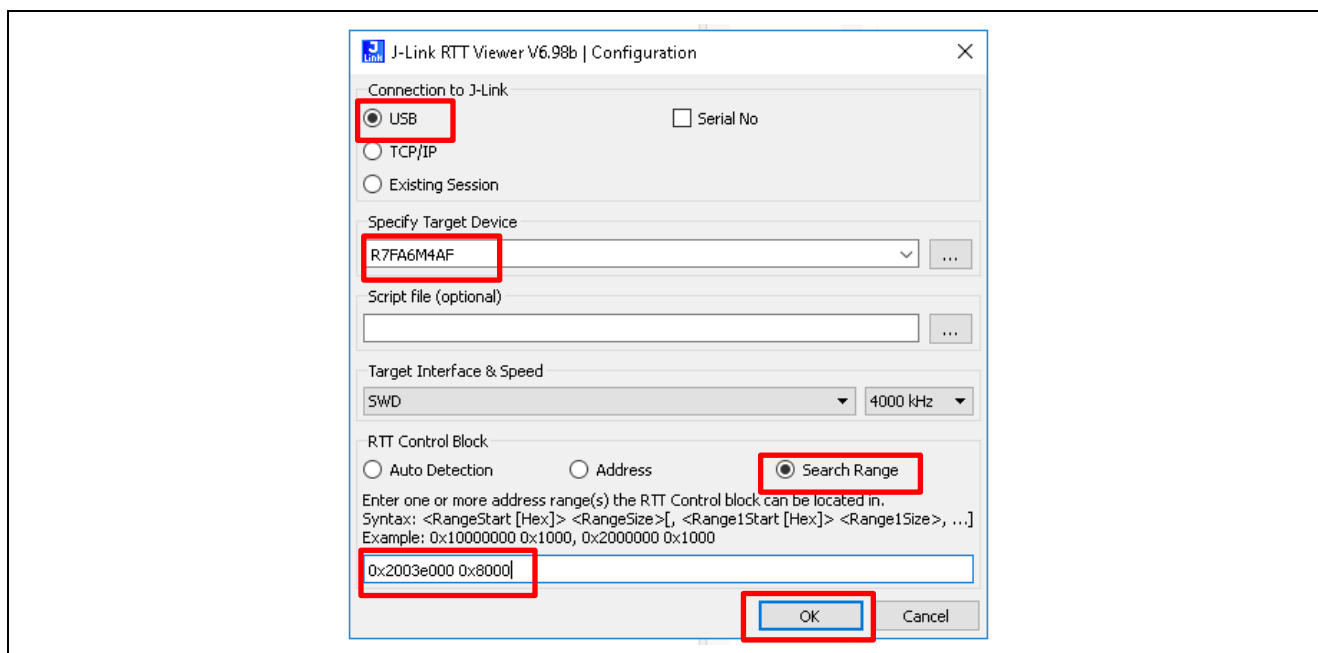

Figure 17. Configure the RTT Viewer
6. Open the J-Link RTT Viewer and set up the same configuration as Figure 17.
6. Open the J-Link RTT Viewer and set up configuration similar as Figure 17 except change the search range to `0x20000000 0x8000`.